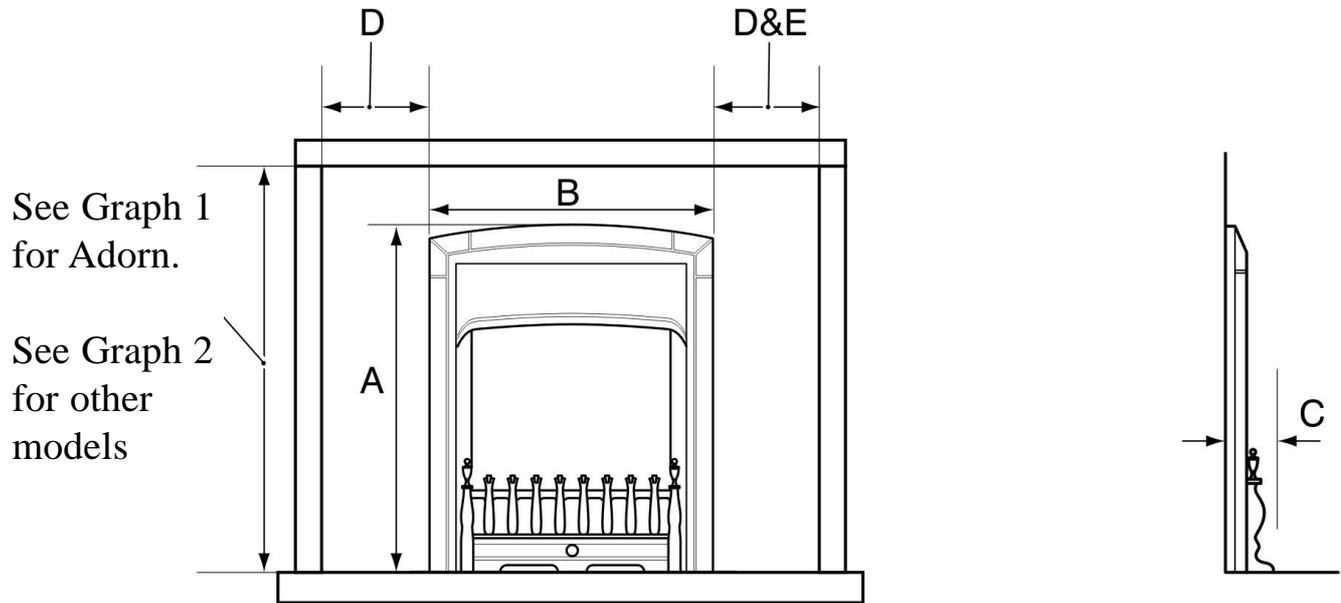

Figure 1. Appliance dimensions and clearances
**Do** provide a minimum side clearance as detailed in figure 1. Please bear this in mind if ever you are considering altering the room.
Figure 1 continued. Appliance dimensions and clearances.